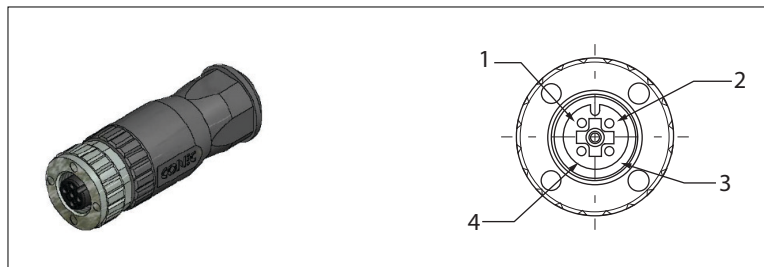

Figure 4. Battery Cable Connector
6. Connect wire to the connector as shown in Table 3, and Figure 4.